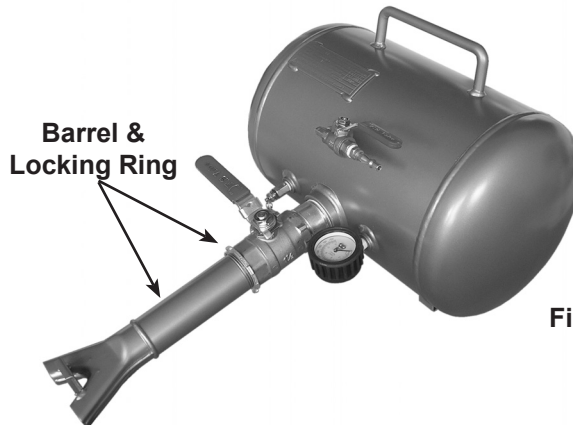
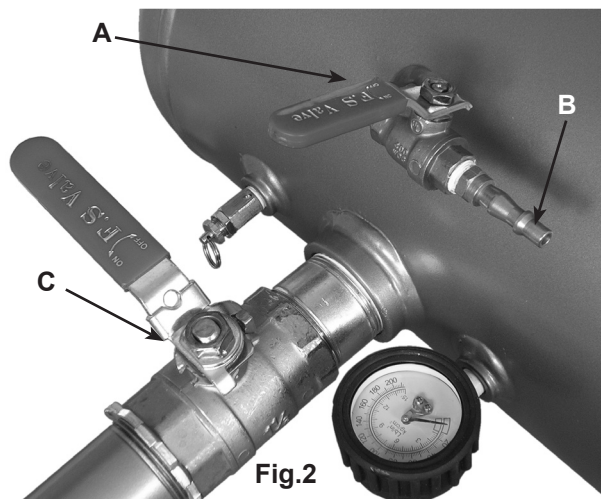

Fig.1
Fig.2
- 3.1 Screw the locking ring onto the barrel and screw into the release valve (Fig.2.C) as shown in Fig.1.
- 3.2 Fit the air line connection (not supplied) (Fig.2.B) into the inlet valve (Fig.2.A).
- 4.1.1. Ensure that the release valve (C) is in the closed position as shown in Fig.2.